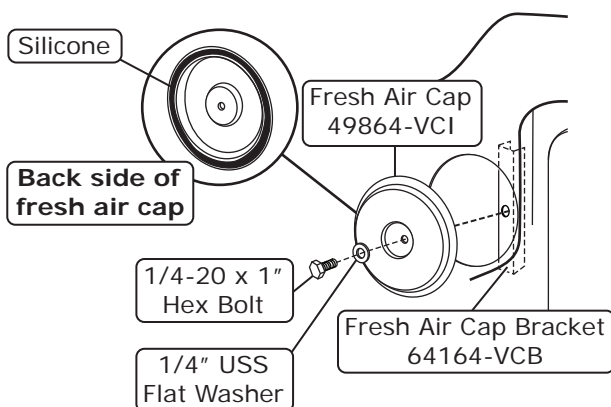

Figure 1
1. Apply a 1/4" bead of silicone around the back side of the fresh air cap as shown in Figure 1, below.
2. Attach the fresh air cap to the firewall using a 1/4-20 x 1" hex bolt and 1/4" washer (See Figure 1, below).
1. Install S-clips onto the defrost duct hose adapters, and attach them to the OEM defrost ducts as shown in Figure 1, below.
2. Install the OEM center vent hose adapter and cap onto the center louver plenum as shown in Figure 1, below.